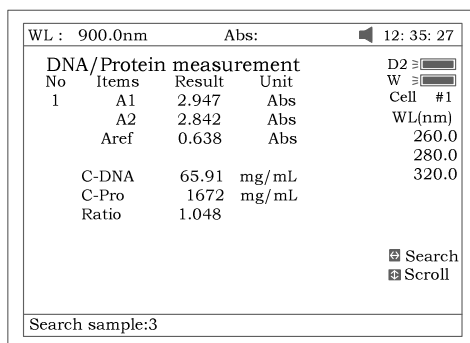

Fig 66
7. Press the key **【<】** or **【>】** for searching. Input the sample number (Fig 66), the result will be displayed on the screen. Press the key **【^】** or **【v】** to browse the test results one by one.